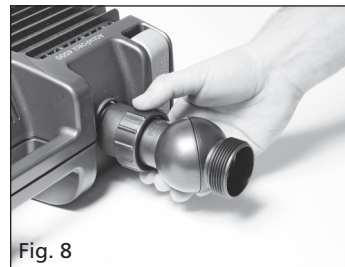

Fig. 8
9. Checking that the ball joint's inlet and outlet bosses are in line, firmly screw the nut on to the screw thread on the outlet adaptor (Fig 8).